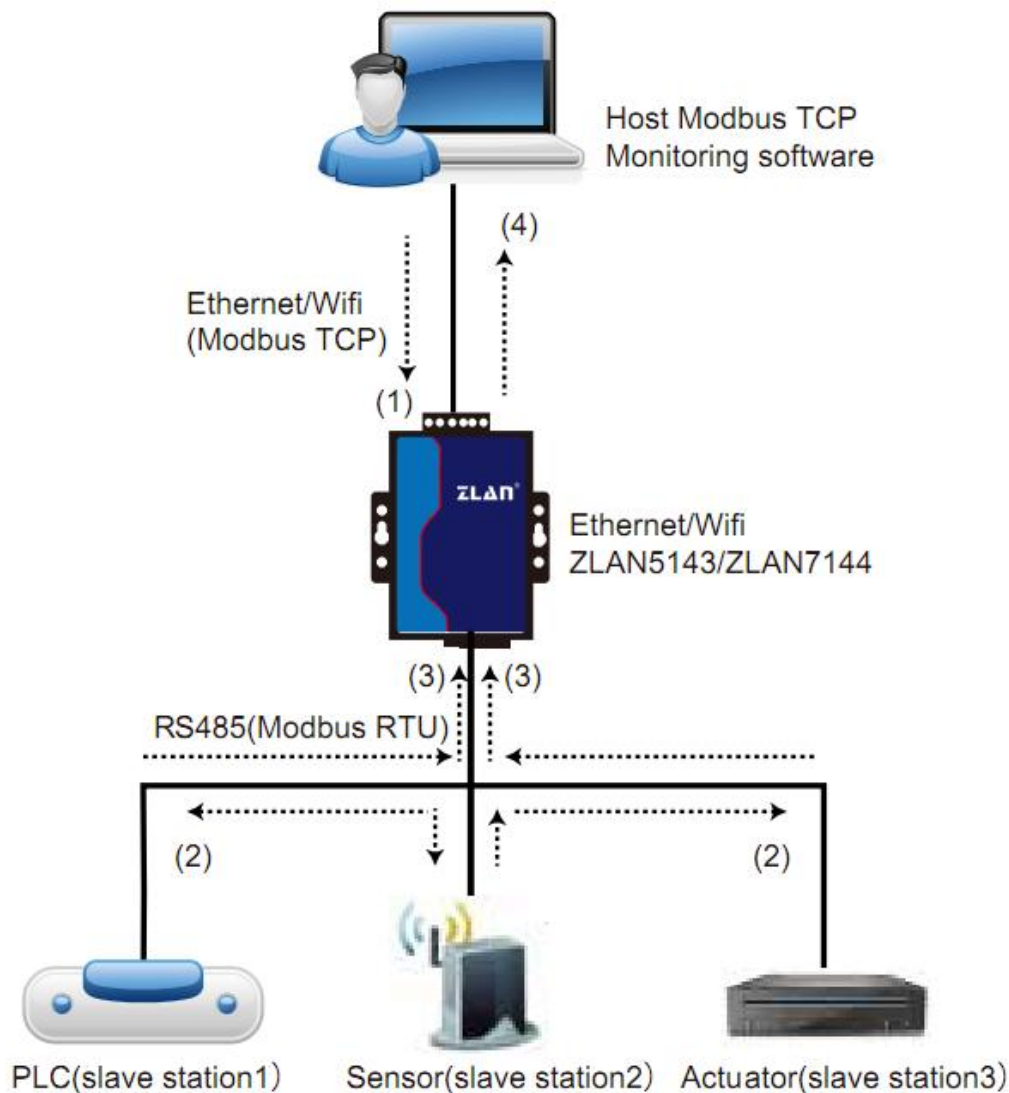

Figure 34 Storage Modbus Gateway
As shown in figure 34: ordinary Modbus TCP data flow direction (1) → (2) → (3) → (4) . In other words, Modbus TCP instruction is first converted into corresponding Modbus RTU instruction, and then the device responds Modbus RTU instruction to Modbus gateway, which is then converted into Modbus TCP again and sent to the monitoring host computer.